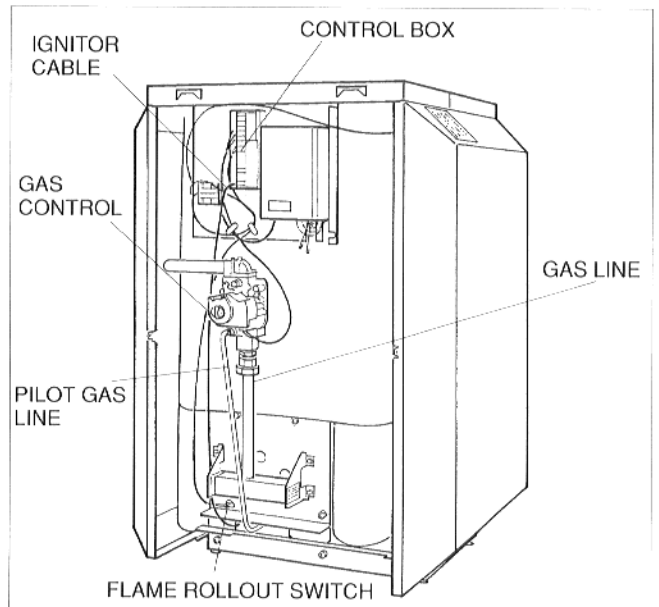
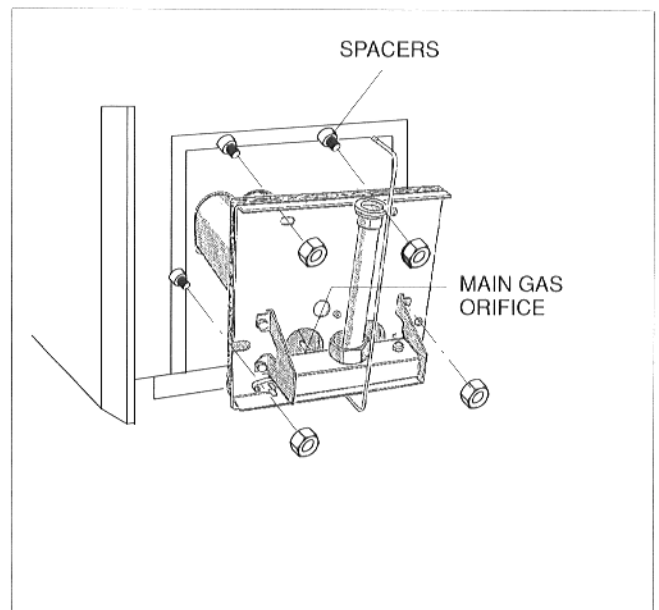

Fig.3
Fig.5
4. Disconnect the pilot line from the gas control, fig.3.
5. Disconnect the ignitor cable from the S 8600 Honeywell Control box, fig. 3
13. Disconnect the union between the gas valve and the manifold. Place the gasket from the union in a safe place, fig. 3.
14. Label the flame roll-out switch wires and disconnect the wires from the flame roll-out switch, fig. 3.
15. Remove the 4 nuts and washers that secure the burner assembly to the boiler and remove the burner assembly from the boiler, fig. 3 and fig. 5.
16. Remove main gas orifices and washers from burner assembly fig. 5.
23. Install the burner assembly in the boiler in reverse order of removal. Ensure the spacers shown in fig. 5 are in place before installing the burner assembly in the boiler. Ensure the nuts are tightened firmly.
27. Reconnect the pilot gas line to the gas valve, fig. 3.
28. Reconnect the ignitor cable to the S 8600 Honeywell Control box, fig. 3.